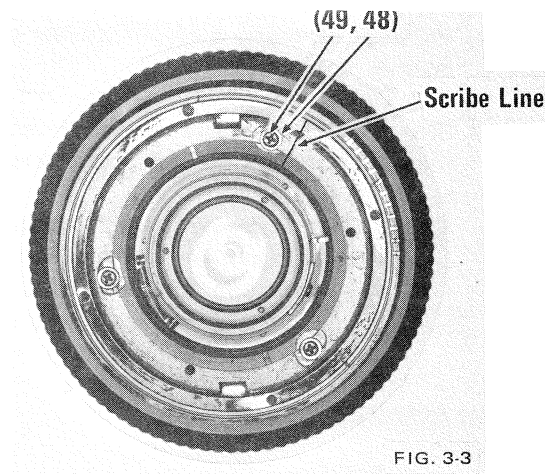

FIG. 3-3
- b) Remove three screws (29) and three washers (28) that hold diaphragm housing in inner helicoid. Fig. 3-3.
- b) Replace washers (28) and screws (29). Seal and tighten the screws. Fig. 3-3.